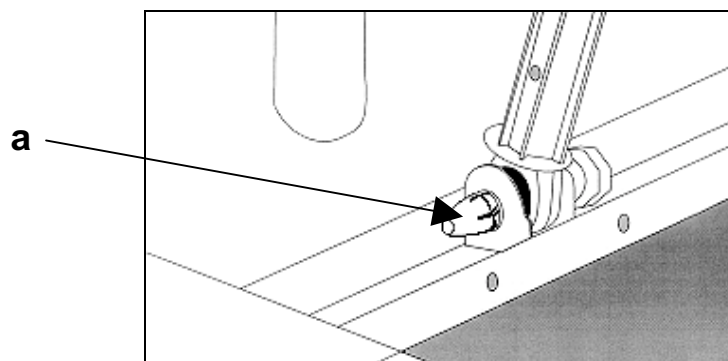

Figure-17
- Damper pin at the tub is pulled off pressing on the snaps (Figure-17)
- Damper pin at the body is pulled off (Figure-17)